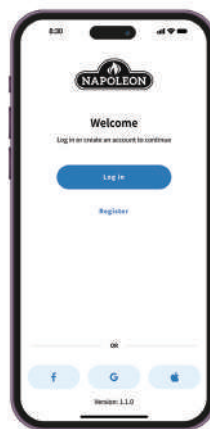

Fig. 1
1. Register an account with the **Napoleon Home App** OR sign-in using your Facebook, Google, or Apple account information. (Fig 1)